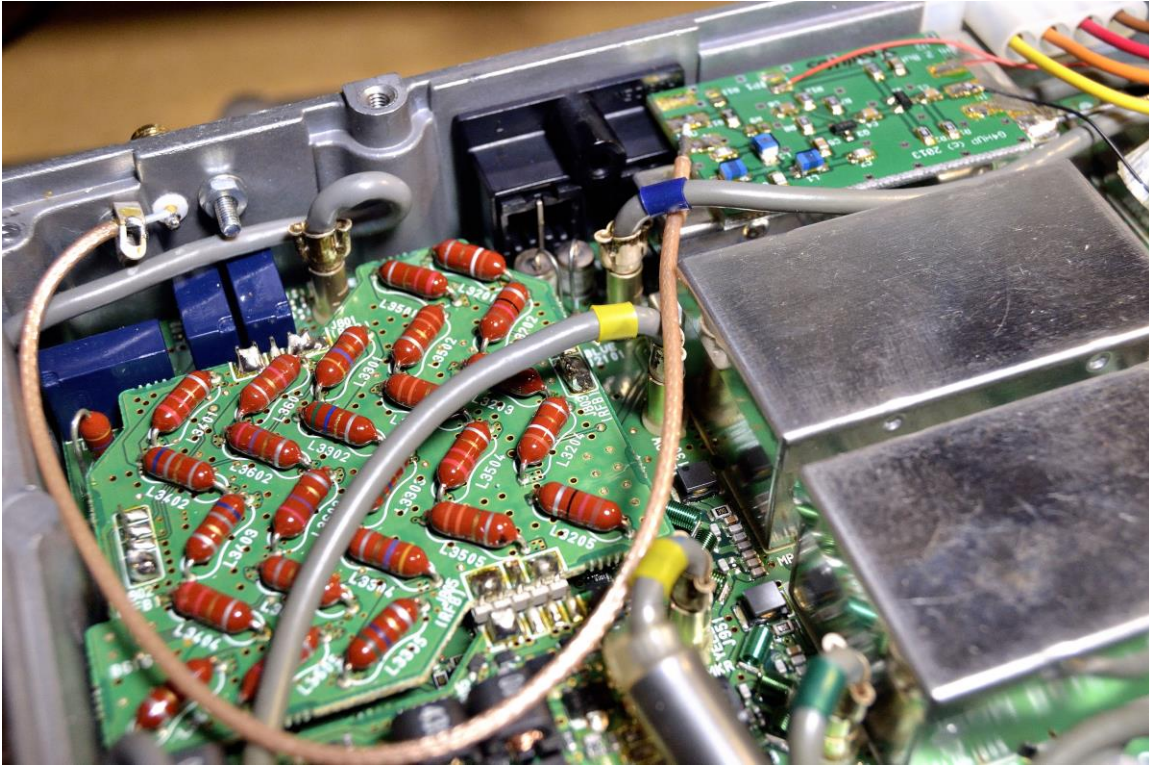

Fig 6 – Routing and termination for the RG178 cable
- 3 It is easy on this rig to mount a suitable connector (SMA) on the rear panel – there is plenty of space. A convenient location is at the bottom left of the rear panel (as viewed from the back of the rig), near the two RCA phono jacks. This keeps the cable run to the PAT reasonably short. Choose the SMA location carefully, since the inside of the cast panel is contoured, rather than flat – see Fig 6. Mark the rear panel, and centre punch for drilling – be careful to keep swarf out of the rig! Mount the SMA as shown in Fig 1. The centre of the SMA is 25mm from the edge of the rear panel, and 8mm above the bottom edge of the case.
Fig 6 shows a correctly terminated cable installed in the IC756 Pro III; other examples may be seen in the other instruction sheets posted.